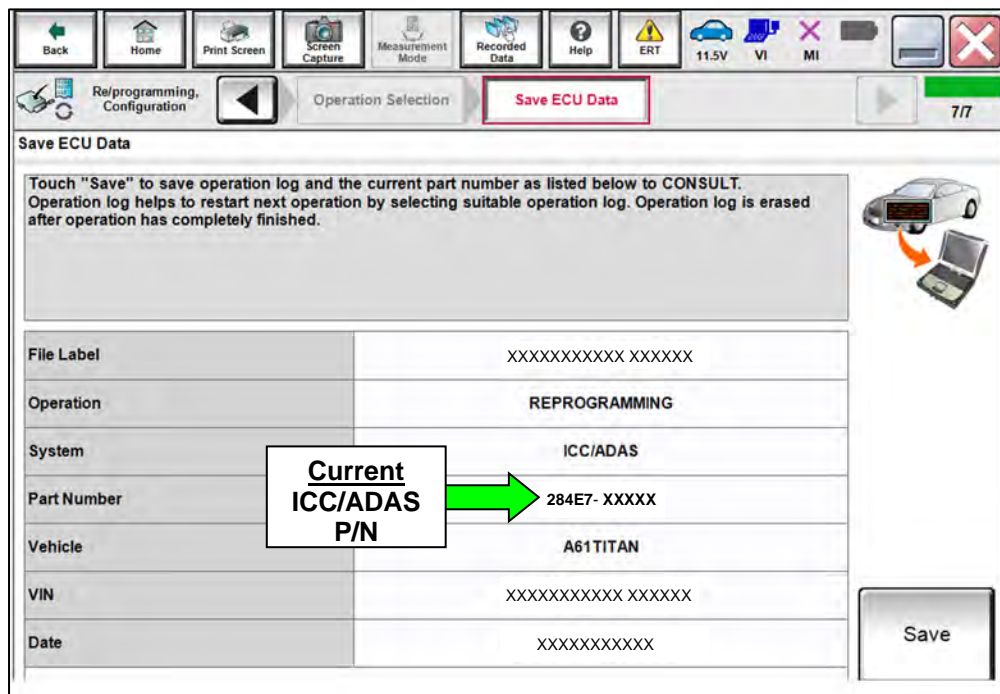

Figure 9
22. When you get to the screen shown in Figure 9, confirm that a reprogram is available as follows: